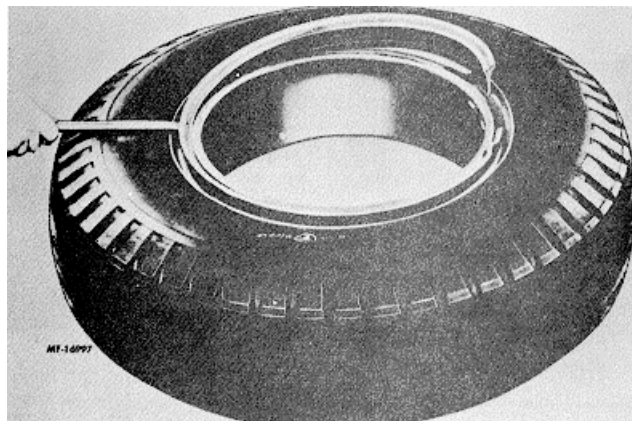

Fig. 45
3. Insert rim tool between lock-ring and sidering. Press down to pry ring up and continue around rim until lock-ring is free (Fig. 45). Remove lock and side-rings from rim. Turn assembly over, unseat second tire bead, stand tire up and remove rim base